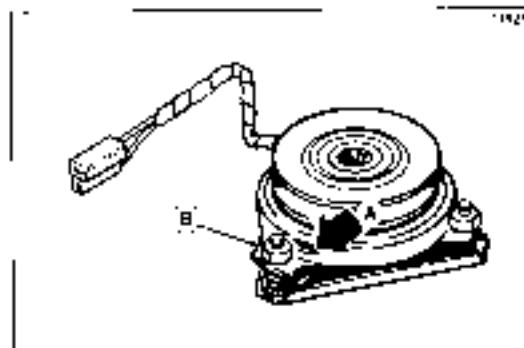

Figure 45. PTO Clutch Adjustment
- 1 Use a 0.010 to 0.012 feeler gauge to check the electric system at three places (A, figure 45). Insert the gauge. The gauge should be a slight resistance as gauge is moved in and out of slot. If tight, or loose, go to step 2.
- 2 Loosen or tighten one of the nuts at (B) to adjust one of the three places. Loosen nut to increase gap; tighten to decrease gap.